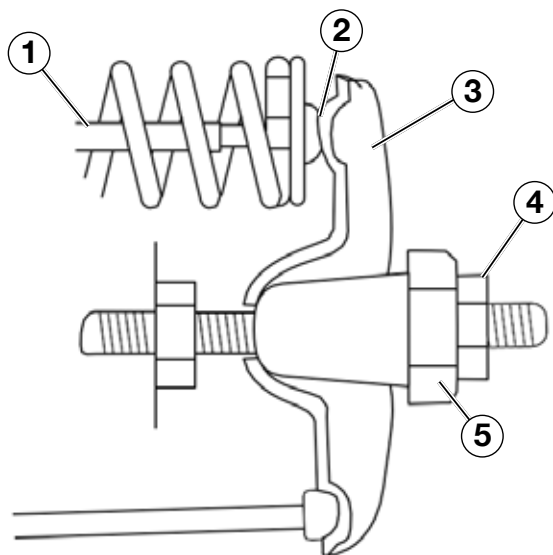

Figure 21
- Insert a feeler gauge between the rocker arm and the push rod and check for clearance (see Figure 21). See table below for valve lash specifications